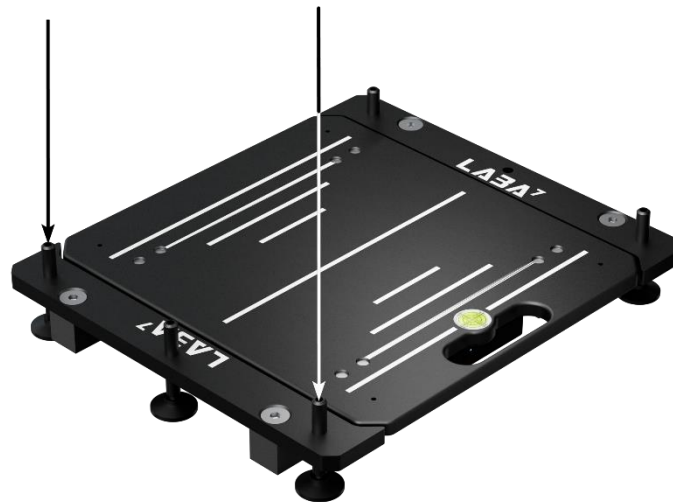

Fig. 7.
- Adjust the pad so the laser points to the same spot on every leveling pin. Adjusting is done by turning 3 leveling feet with an allen key. While doing this step, on one side of the pad only middle foot is used, so unscrew the side ones to the point they are not touching the ground. Which feet to unscrew is shown in Fig. 7.
- After leveling is done, turn those unscrewed feet, located on the sides of the pad(Shown in Fig.7) hand tight, until it touches the ground and unscrew the middle one, which was used for leveling, to the point it will not touch the ground.